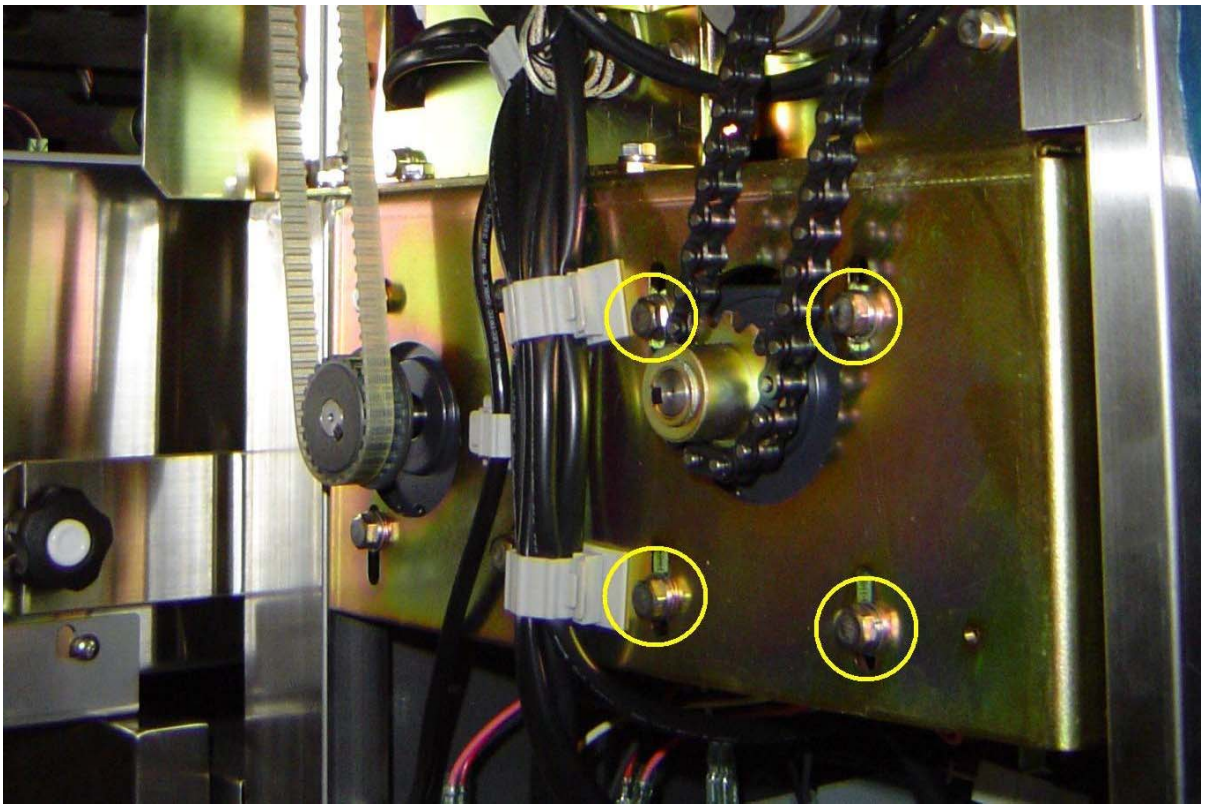

Figure 5. Heater Conveyor drive chain motor mounts.
- a. Loosen motor mounts -- 4 bolts. **[See Figure 5]**